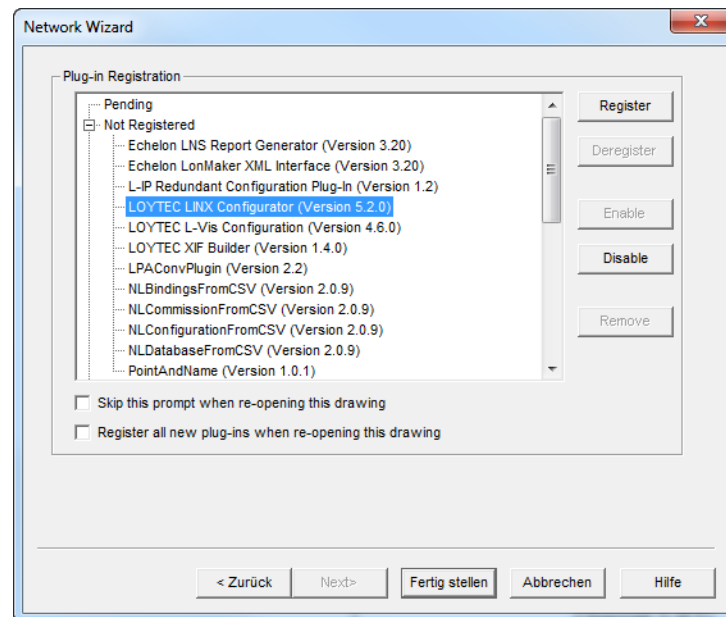

Figure 17: Select the Plug-in to be registered.
2. Click **Next** until the plug-in registration tab appears in the Network Wizard. Select the **LOYTEC LINX Configurator (Version X.Y)** from the list of **Not Registered** (see Figure 17).